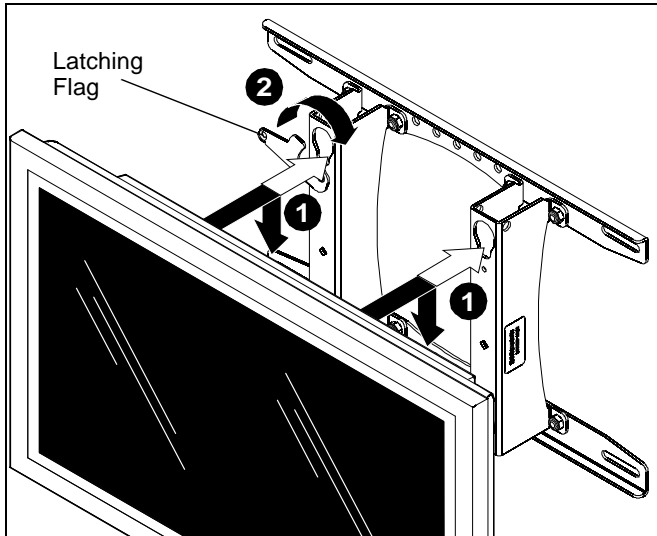

Figure 4
1. With the aid of another person, lift the display up to the mount on the wall, aligning mounting buttons with the teardrop slots on the mount, and lower the display firmly into place. (See Figure 4)
2. Raise the latching flag to secure the display. (See Figure 4) If the flag does not fully engage, check to ensure the mounting buttons are fully seated in the slots.